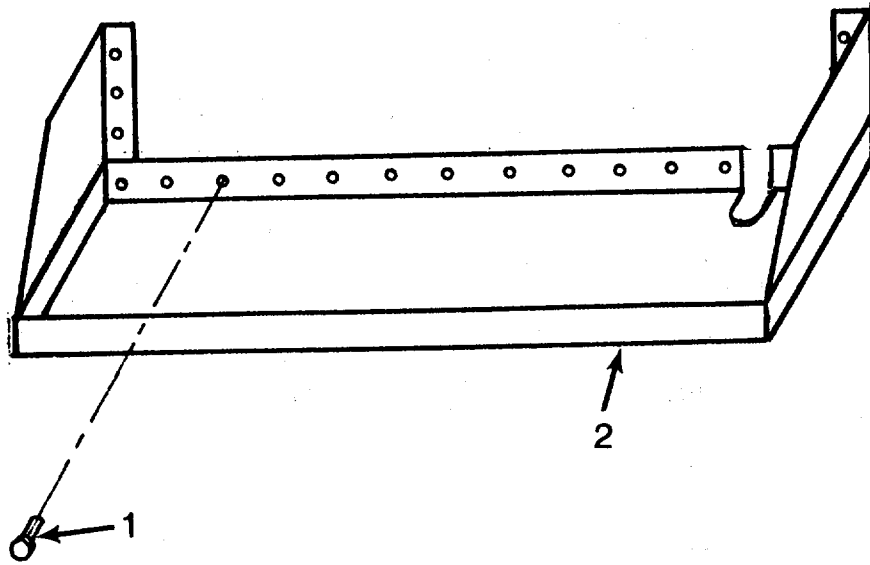

Figure 4-14. Film Dryer Assembly Shelf
- (5) Remove dryer shelf rivets (1, Figure 4-14) by drilling or chiseling off heads.
- (6) Remove shelf (2).